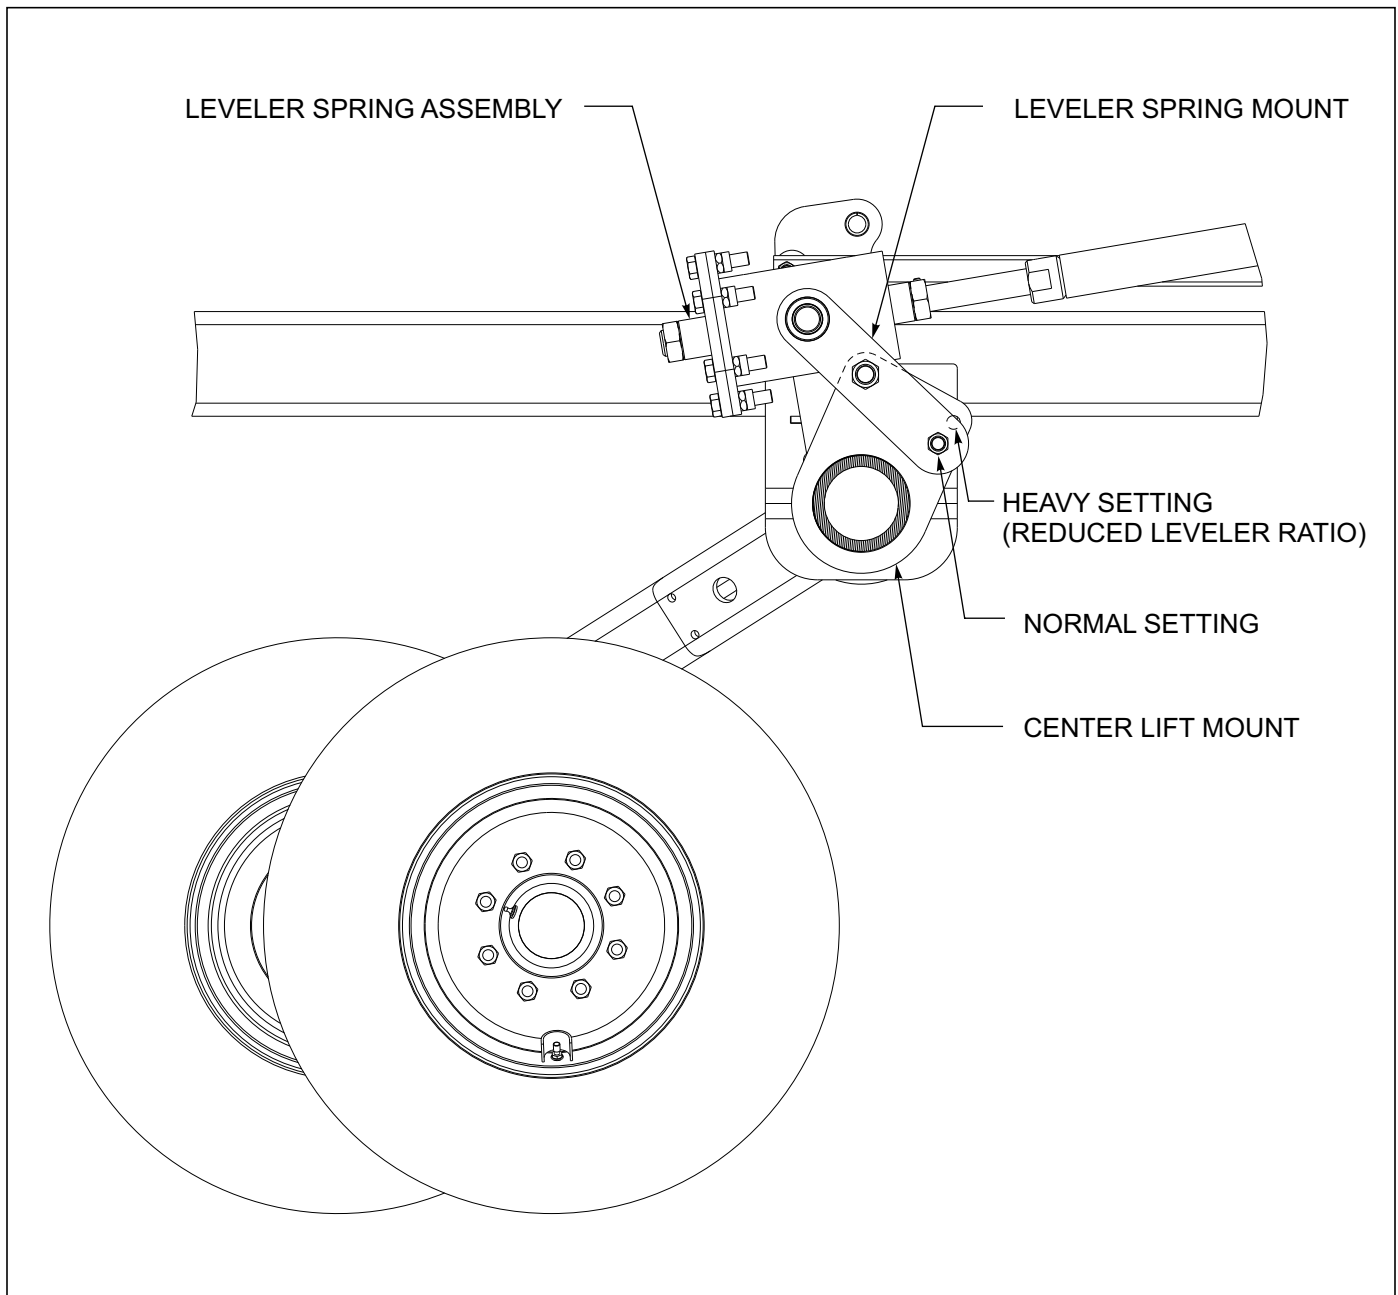

Figure 4-9: Variable Ratio Leveler Adjustment
2. Extend or retract the leveler assembly (manual or hydraulic), until the load is removed from the leveler assembly (**See Figure 4-9.**)